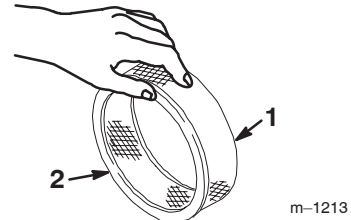

Figure 32
- Lightly tap the paper filter on a flat surface to remove dust and dirt (Fig. 32).